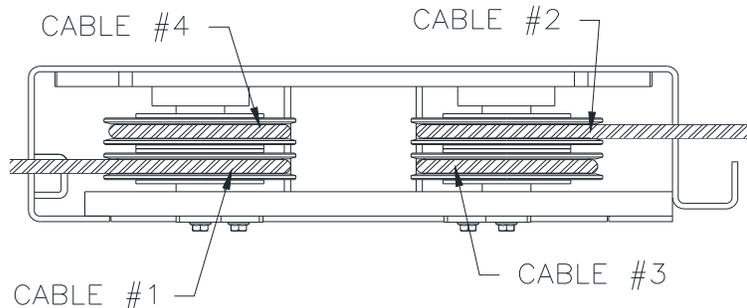

Fig 6 – Power Runway 4-Stack (Rear View)
- 2) Unpack lift. Remove all packaging from Power Runway (power runway has four cable sheaves at rear end) and pull threaded cable ends out. Make sure the cables are in the proper sheaves at the 4-stack, **Fig 6**.
- 14) From the rear, route cable #1 from the top of the left sheave stack through the access hole and up out the left end of the rear cross beam. Repeat for cable #2 from the bottom of the right rear sheave stack through the access hole and up out the right rear of the rear cross beam, **Fig 6 & 7**.